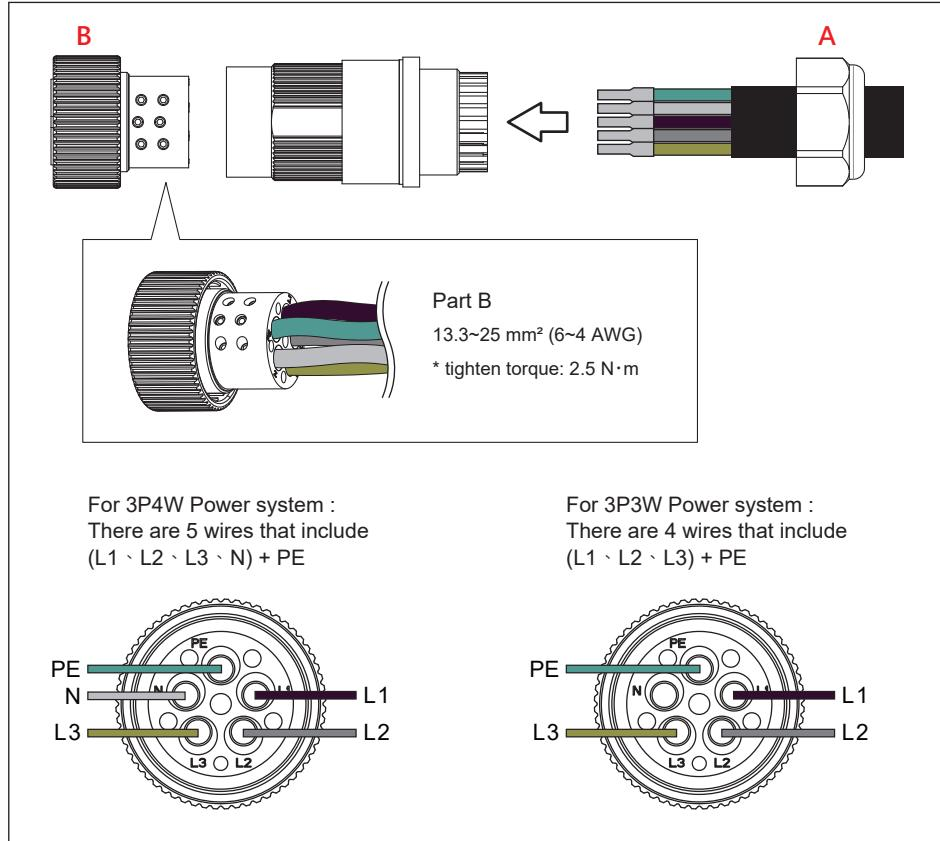

Figure 3-13 : AC wiring
2. Insert the cable into Part A (AC gland), and fix the internal wires (tighten by $\Phi 2.5\text{mm}$ wrench with $2.5\text{ N}\cdot\text{m}$ torque) into Part B . (**Figure 3-13**)